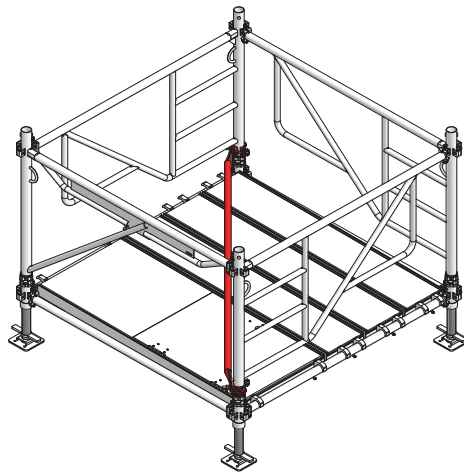

Fig. 9.2
9. Attach a horizontal brace MT between two frames MT 100 to make sure the entire frame construction is rectangular (Fig. 9.2).